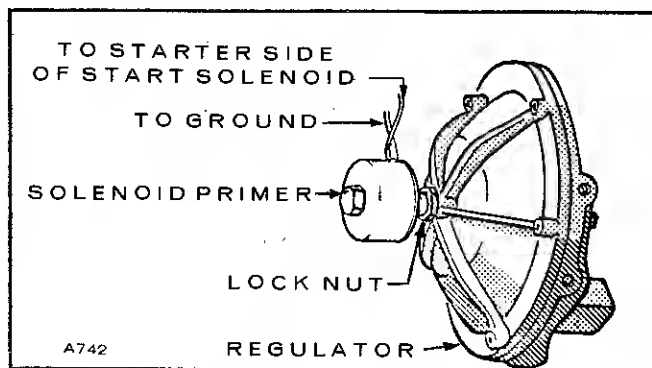

FIGURE 23. SOLENOID PRIMER
**Solenoid Primer (Algas regulator only):** Algas regulators use an optional solenoid primer to provide quick engine starting. The primer (Fig. 23) holds the regulator open during plant cranking. It can be adjusted for a rich or lean mixture by loosening the lock nut and turning the primer in or out. Clockwise richens the mixture.